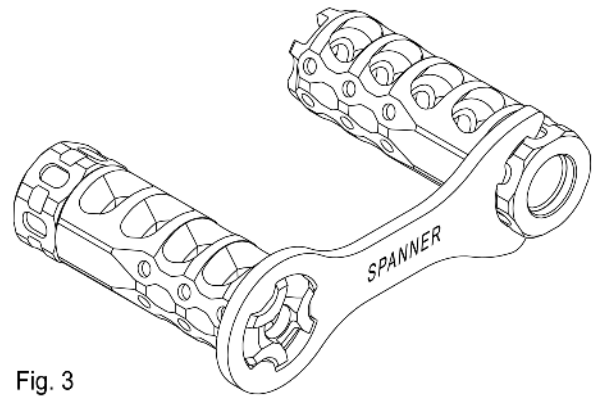

Fig. 3
4. Hold the brake body in timed position using either the included spanner tool inserted over the skeletonized crown (Fig. 3) or an adjustable wrench on the top/bottom flats. Note: Spanner tool can be used to assist timing alignment by eye sighting the wrench handle to a vertical orientation).
5. Turn the timing nut back until it contacts the barrel shoulder. Using the other included spanner tool inserted into the nut slots (Fig. 3) or an additional adjustable wrench on the nut flats, apply approximately 20 ft-lbs of torque. (The included spanner tool will achieve approximately 20 ft-lbs when torqued as hard as comfortably possible).
**REMOVAL:** Turn the TIMING NUT in the opposite direction from installation using either the included spanner tool (Fig. 3) or an adjustable wrench. Once the pre-load torque is breached, the brake/nut assembly will thread freely off barrel.